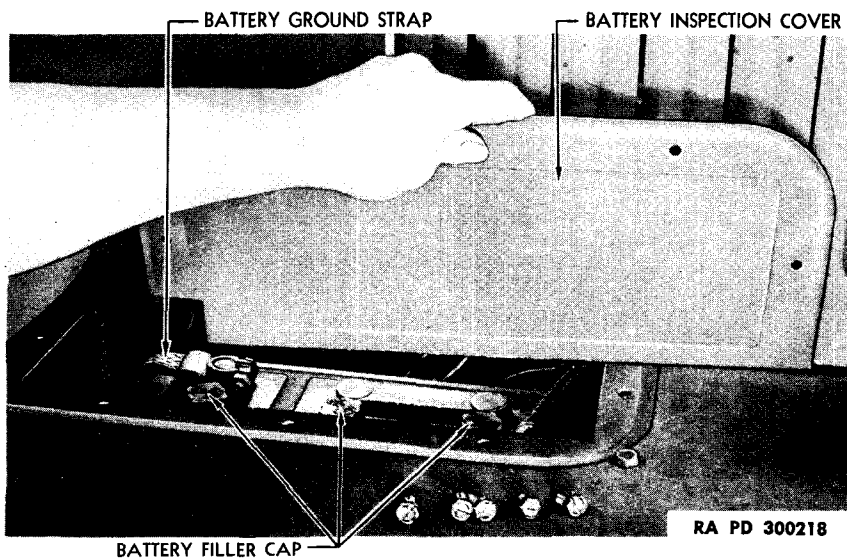
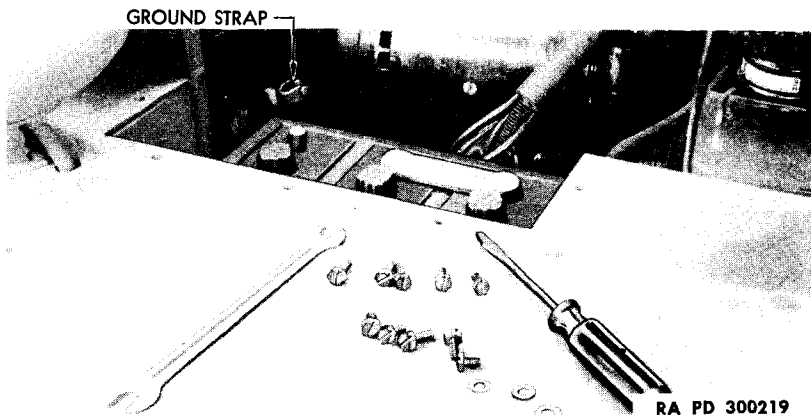

Figure 132—Removing Battery Inspection Cover
Figure 133—Battery Ready for Removal
c. **Battery Removal.** Remove five retaining screws and lock washers from engine side panel and lift off battery. Remove the five retaining screws and lock washers from the battery cover, and lift off cover (fig. 132). Loosen the grounded (positive) terminal and lift it off terminal post. As removal of the grounded lead prevents the possibility of destructive arcs if metal tools accidentally short circuit a negative terminal to the compartment or frame, first loosen two clamp bar nuts on inner side of battery box, and lift battery out (fig. 133).
c. Cable Removal. Always first loosen and remove cable from grounded terminal, regardless of what cables are to be removed (fig. 133), then proceed with the removal of desired cable. Loosen battery end terminal and lift off. Unscrew the terminal nuts on other end and remove cable. Remove switch to cranking motor cable by unscrewing terminal nuts and removing cable.